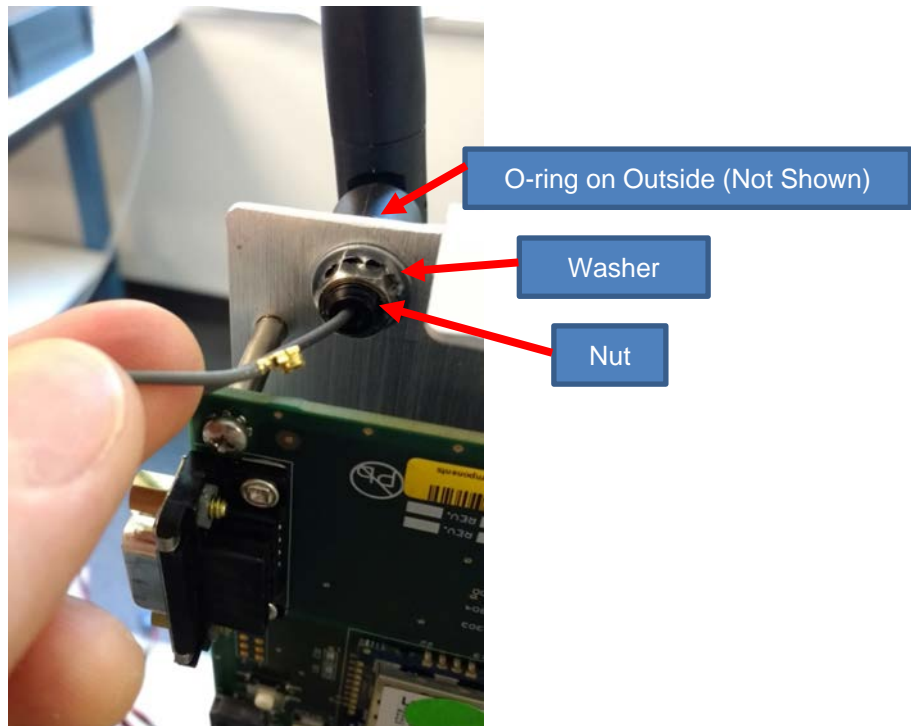

Figure 5 Wireless Antenna
- Using the provided washer and nut, hand tighten the antenna to the outside of the leak detector wall, and then apply a $\frac{1}{2}$ turn using an adjustable wrench (Figure 5: Wireless Antenna).